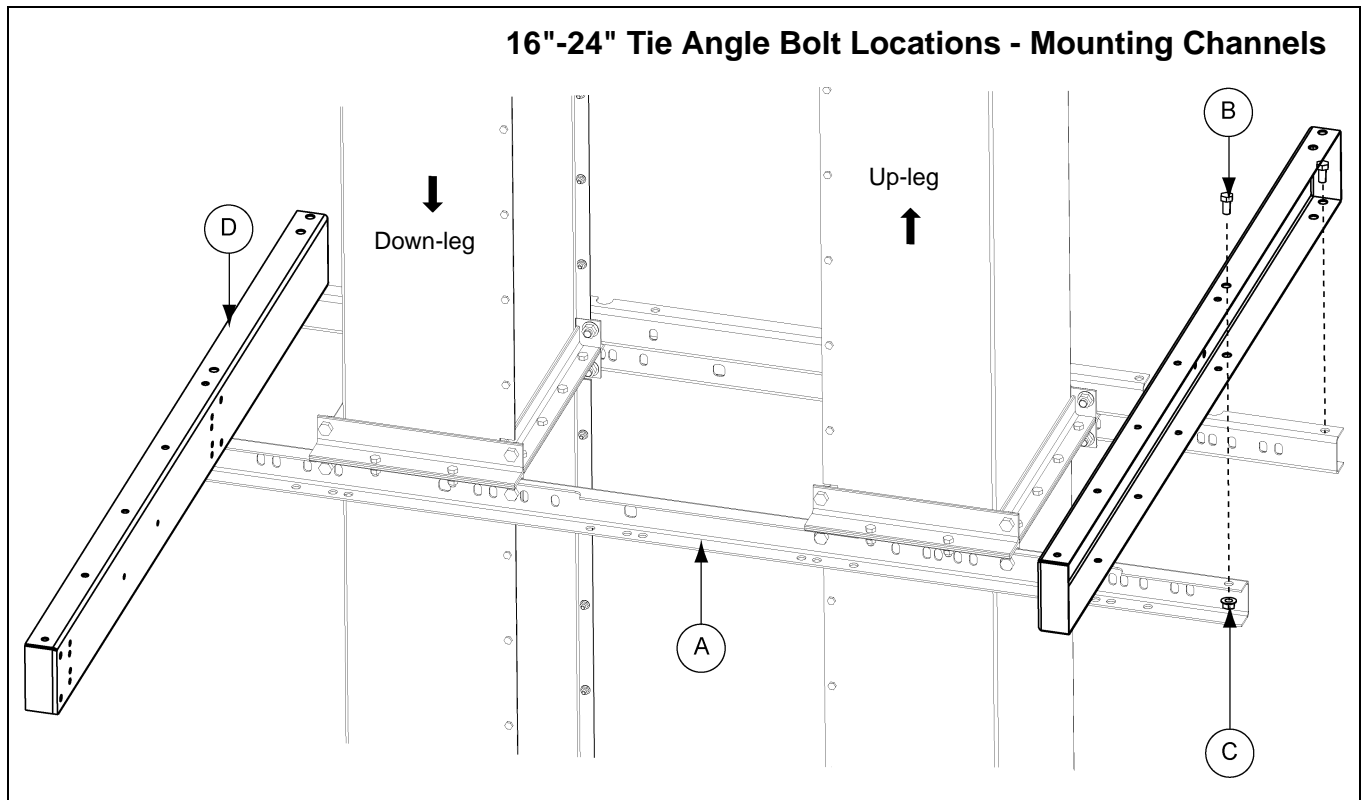

Figure 7F Bolt hole locations for 16"-24" rest platform mounting channels to tie angles.
1. Connect rest platform mounting channels to the rest platform tie angles using 1/2" x 1" bolts. Bolt hole locations for 16"-24" bucket elevator will be the same. (See Figure 7F.)